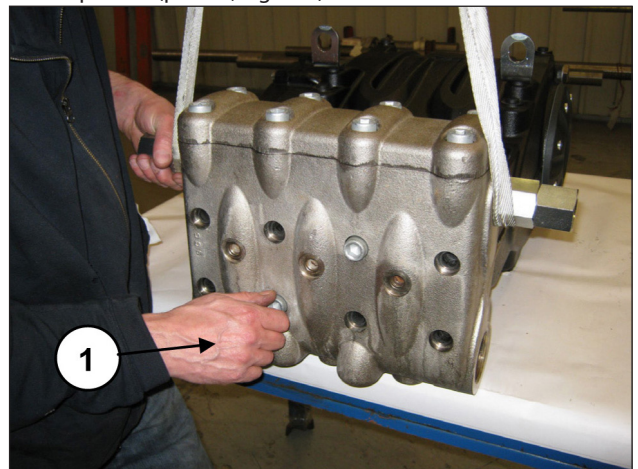
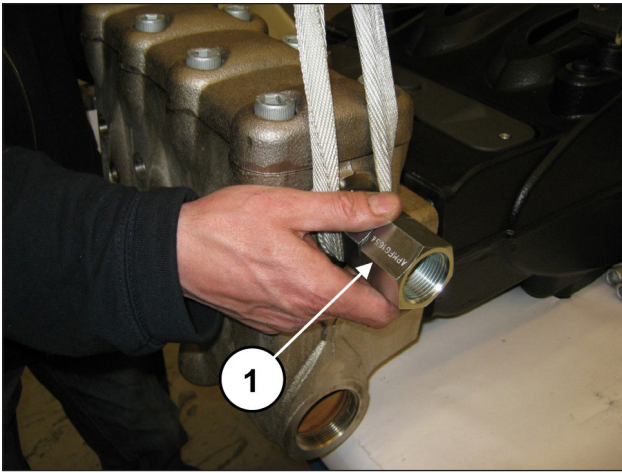

Fig. 105
Fig. 106
It is now possible to remove the head from the pump casing, unscrewing the 8 M16x180 screws (pos. ①, Fig. 105). During disassembly of the head, pay special attention not to hit the pistons (pos. ①, Fig. 106).